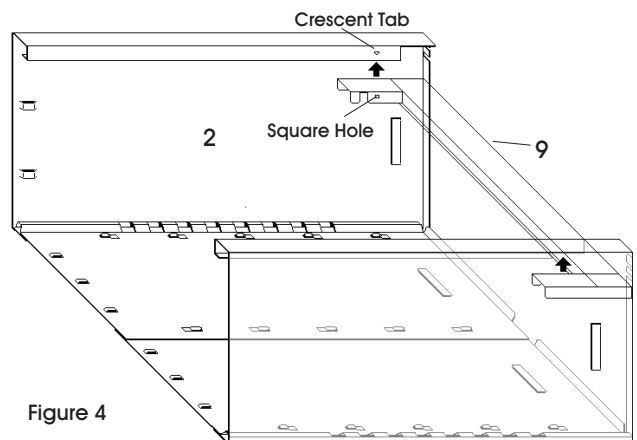

Figure 4
1. Position the kick plate (9) as illustrated and begin installation by lifting its right end upwards inside the channel on the right side panel (2). (See Figure 4)
2. Push the kick plate upwards until the crescent tab on the side panel engages the square hole on the kick plate. (See Figure 4)